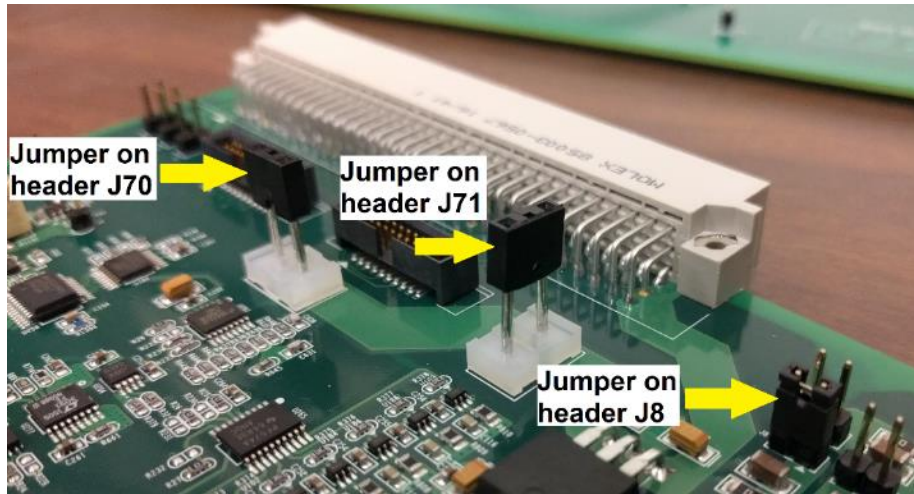

Figure 10: Power board jumper configuration with VME (single module testing only)
- 3) Load a 0.2" jumper on header J70 and another 0.2" jumper on header J71 (see Figure 10)
- 4) Load a 0.1" jumper on header (see Figure 10)